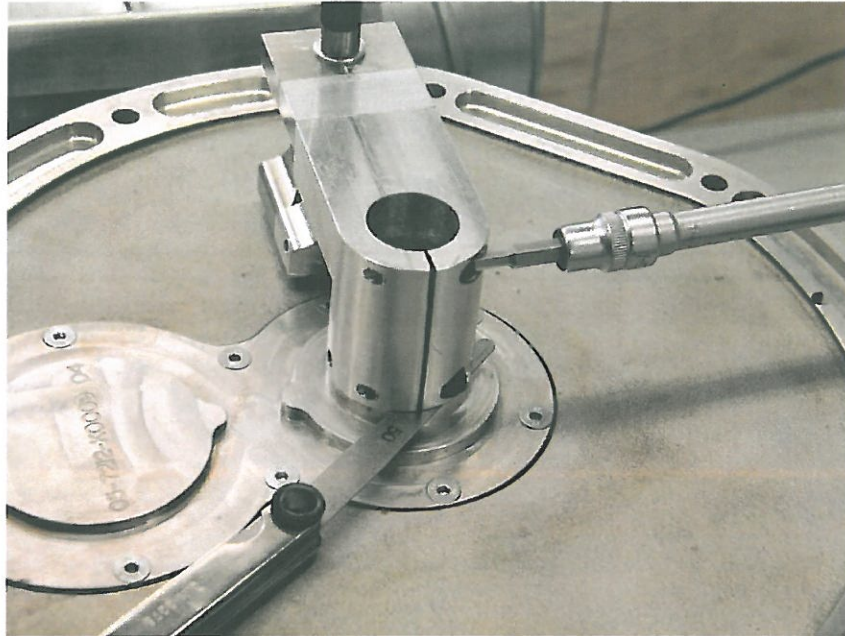

Fig. 4 Screws for the attachment of the special tool
◆ Note: Make sure that the two cylinder head screws at the special tool are loose. See Fig. 4.
7. Tighten the two cylinder head screws to the specified tightening torque. See Fig. 4.